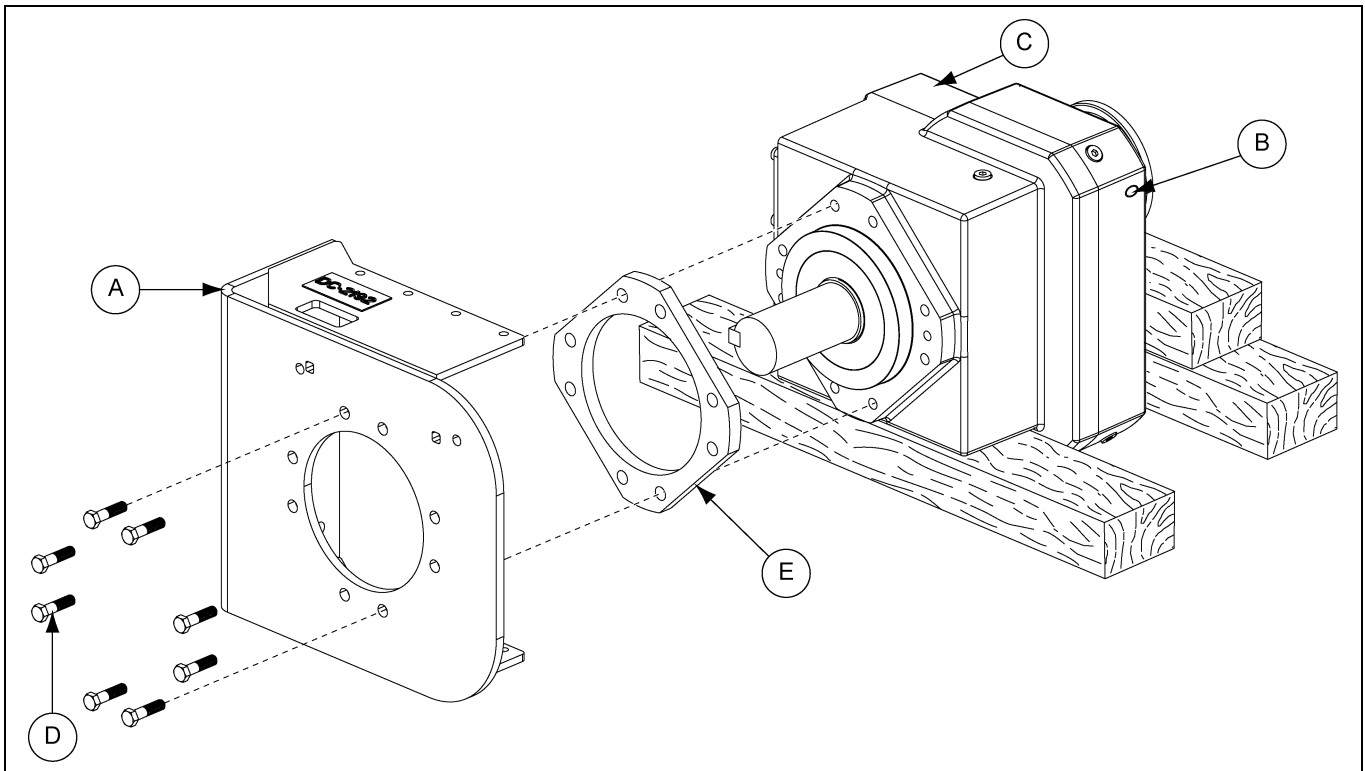

Figure 8C
1. Using the appropriate lifting device, carefully lift and place the gearbox on its side, using blocks to stabilize each end as shown. (See Figure 8C.)